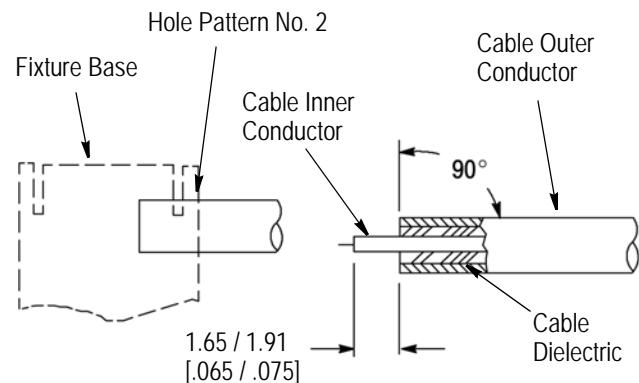

Figure 2
### 3.1. Preparing the Cable (Figure 2)
5. Complete trimming of cable inner conductor to dimension shown in Figure 2.